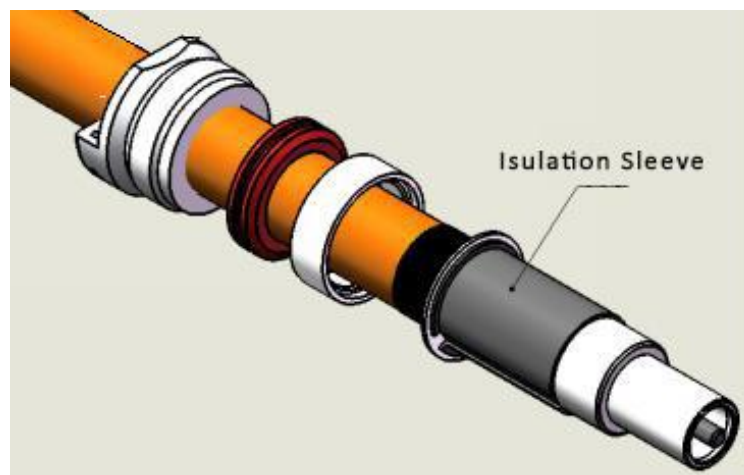

Fig. 9
4.1.3. The insulating sleeve card is mounted on the terminal, as shown in Figure 9.